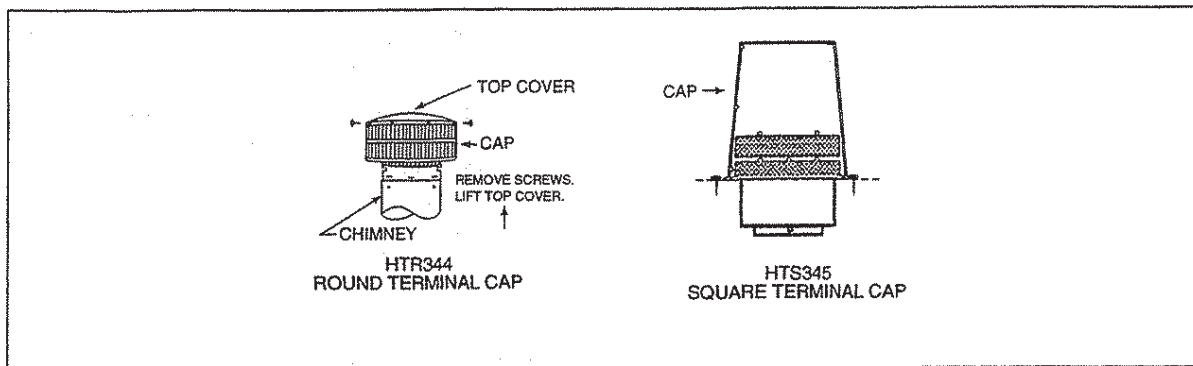

Figure 25
3. Remove the Terminal Cap or Housing Top. See Figure 25.